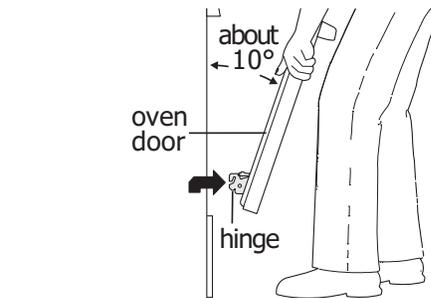
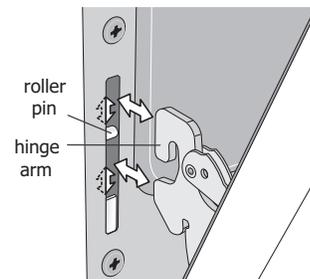

Figure 31: Holding door for removal
Figure 32: Replacement and location of hinge arm and roller pin
3. Firmly grasp both sides of oven door along the door sides. Do not use the oven door handle (See Figure 31).
4. Close the door to approximately 10 degrees from the door frame (See Figure 31).
5. Lift the oven door hinge arms over the roller pins located on each side of the oven frame (See Figure 32).
1. Firmly grasp both sides of oven door along the door sides. Do not use the oven door handle (See Figure 31).
2. Holding the oven door at the same angle as the removal position, seat the hook of the hinge arm over the roller pins located on each side of the oven door frame (See Figure 31 and Figure 32). The hook of the hinge arms must be fully seated onto the roller pins.